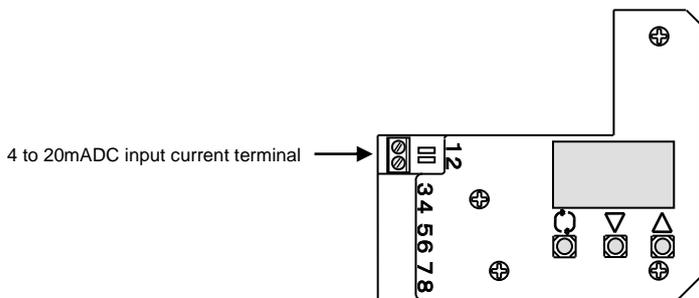

Fig. 9
- (1) Remove the positioner body cover.
- (2) Connect the input current wiring from an adjusting meter (controller) following Fig. 9*¹.